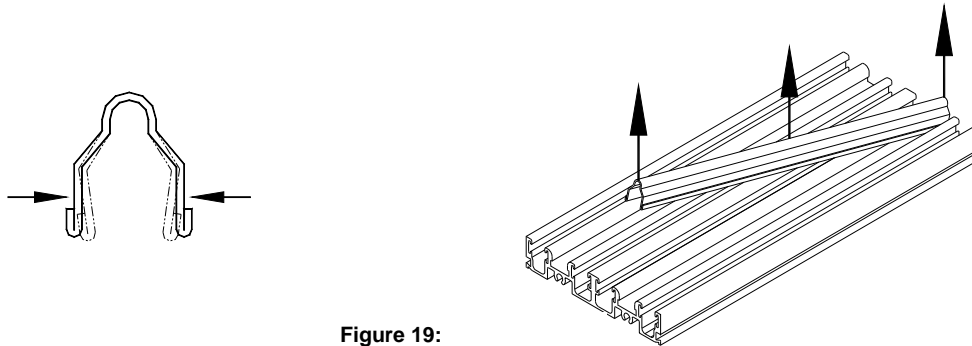

Figure 19:
1. Using a pair of pliers, slightly squeeze the track together at one end and pull up (Figure 19).